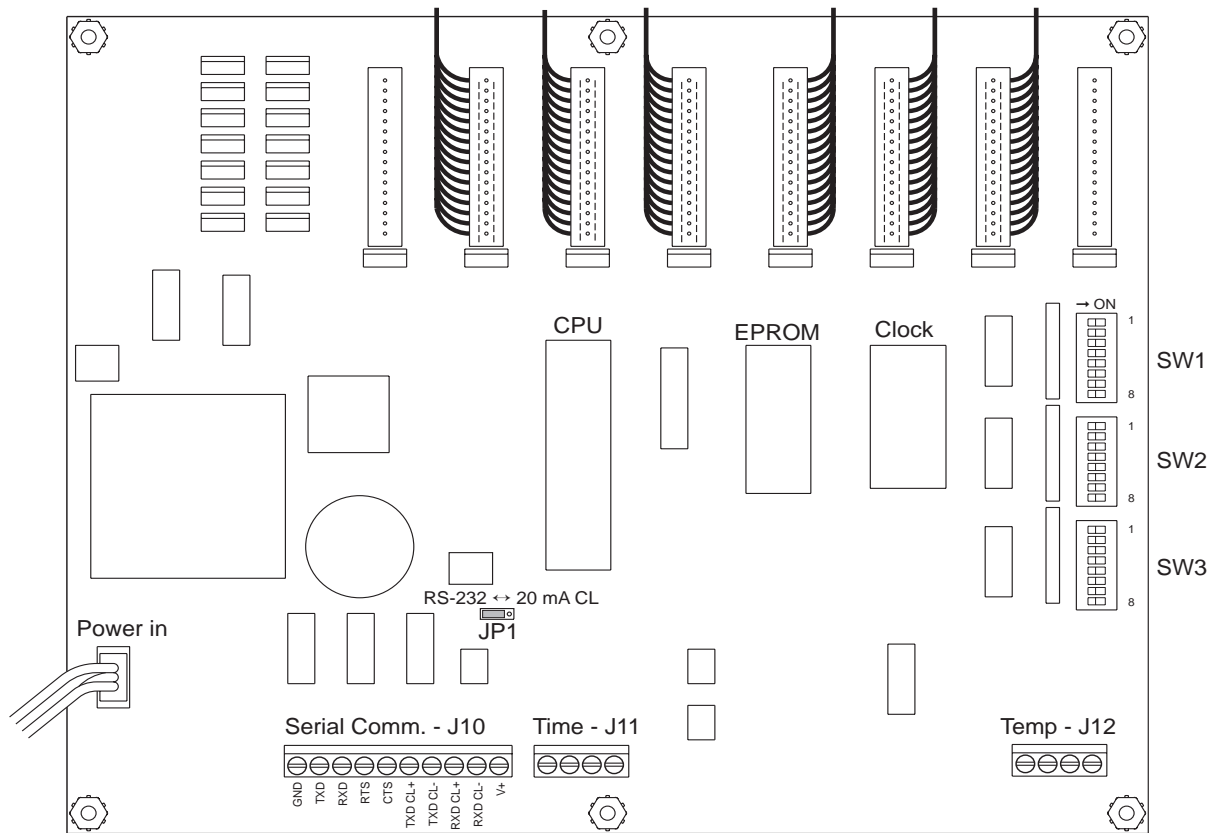

Figure 6.2. Circuit Board
4. Disconnect communication cable from terminal strip J10 (See Figure 6.2, page 12). Disconnect AC power cord and ground connections from inner panel. If unit has time and temperature options, disconnect those wires from terminals J11 and J12 respectively.
4. Refer to Figure 6-2 for location of EPROM chip on circuit board. Note which direction notch in chip is oriented. Use a small screwdriver or an IC extractor to gently pry chip from its socket.
The clock socket plugs piggy-back style into an EPROM chip socket and has pin sockets to accept another chip into itself. See Figure 6-2 for the location. Built into the body of the removable socket is the clock for the time display. Replace the clock socket using the EPROM chip replacement procedure above.